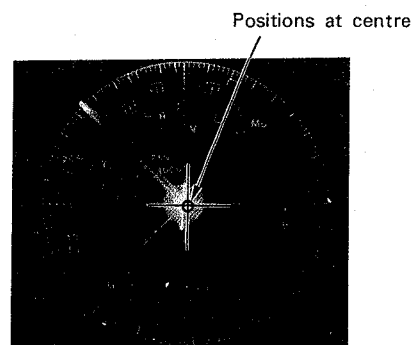

Fig. 4-11
- If the vector does not position at the centre of vectorscope, press **PG DN** key twice to return to (14)-1, and repeat above procedure until vector positions at the centre of vectorscope as shown in Fig. 4-11.